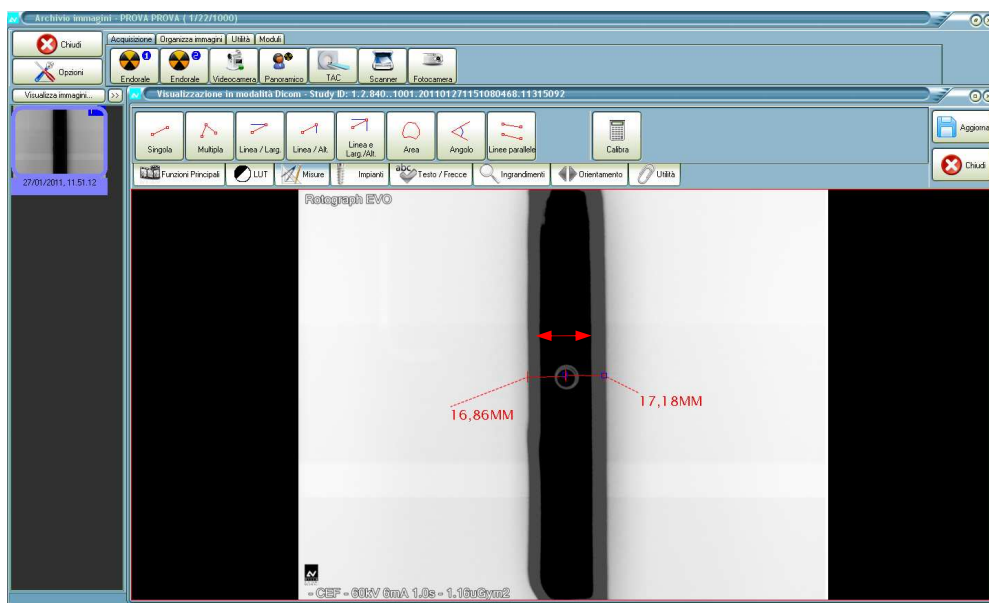

Figure 6-25
1. Press "Exam Mode Selection" area (11)  ; the Digital Sensor will be aligned to the X-ray beam.
- If the rings are not centered (Figure 6-25), it is necessary to adjust the mechanical position of the rings (see paragraph 9.7.1).